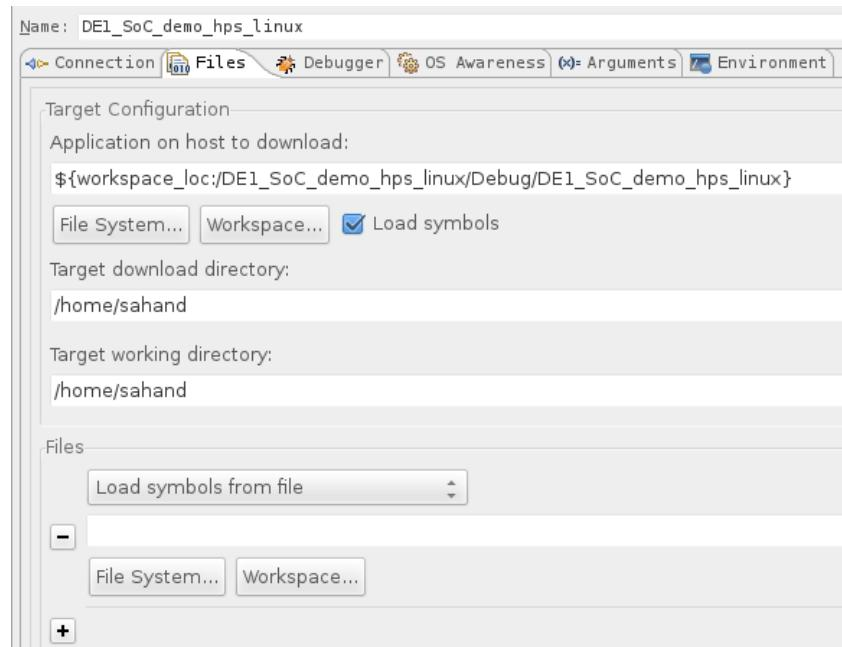

Figure 13-15. Debug Configuration "Files" Tab
- c. Set the “Target working directory” to your user directory. In my case it is “/home/sahand”. You should have something similar to Figure 13-15.